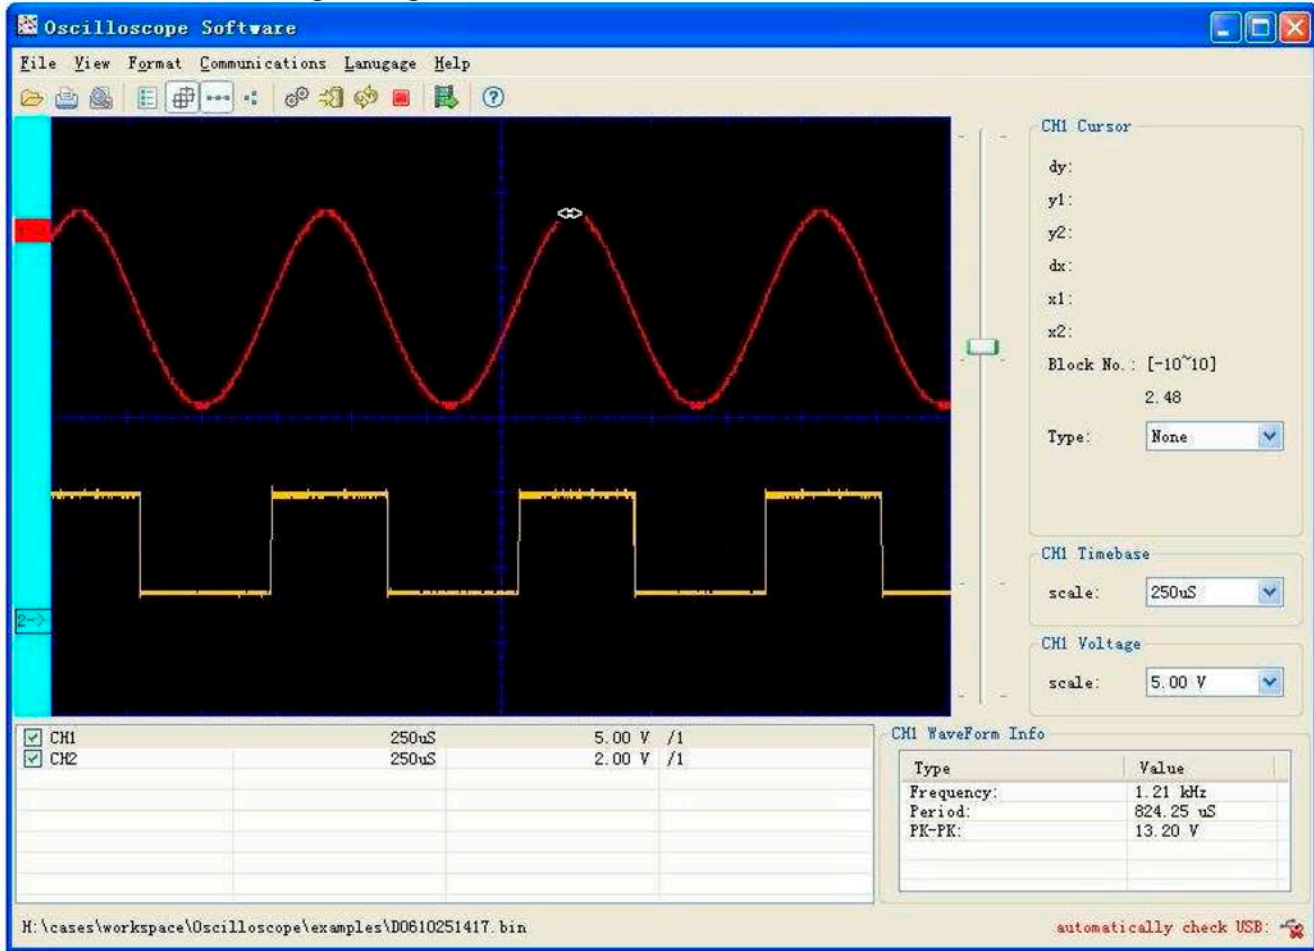

Fig 5-1-1
1. operation for waveforms display range: (Fig 5-1-1-5)
(2). waveform move left and right: Move the mouse to the waveform, it becomes icon, then drag the mouse to make the waveform left and right as Fig 5-1-1